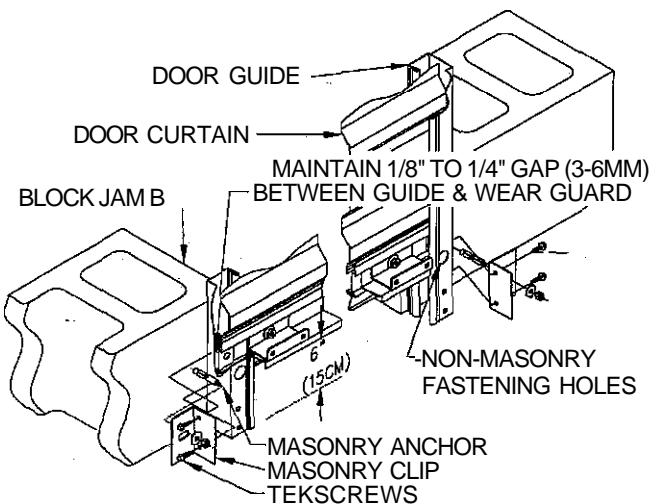

**Figure 9.**
6.3 Guide the door curtain carefully into the door guides and pull it down to approximately waist level. See Figure 9.
7.1 Attach the two keepers to the bottom interior edge of the door with one (1) 1/4" carriage bolt and whiz nut in each keeper. See Figure 9.
7.2 Attach doorstops to the bracket as shown using one (1) 5/16" track bolt and nut. Slide bottom of stop toward guide until it touches. See Figure 9.